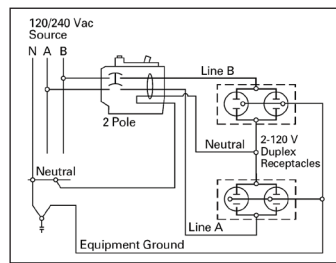

Figure 16. Two-pole, shared neutral with multi-duplex receptacle application
- ^c Independent trip refers to two-pole multi-wire, home run or shared neutral circuits (see **Figure 16** and **Figure 18**).